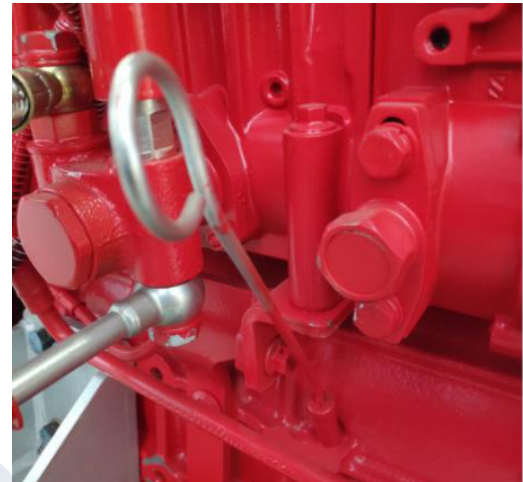

FIGURE 24 - OIL DIPSTICK
- Make sure the diesel engine has been shut-down for a minimum of five (5) minutes.
- Remove the dipstick. See FIGURE 24.